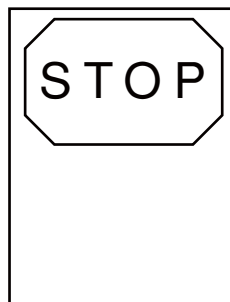
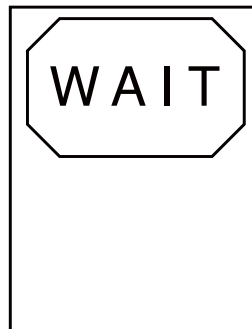

Fig.13
Fig.17
- (2) When the aircraft reaches the stopping position, a message "STOP" will be displayed on the screen with a red border. (Fig.13)
- (1) When the system displays an incorrect aircraft type, or when such a message as "STOP", "ID FAIL", or "WAIT" appears on the display screen, the pilots should stop the aircraft immediately. (Fig.3, Fig.13, Fig.17)